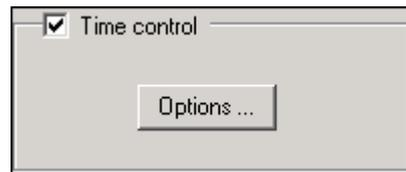

Fig. 54 Time control checkbox on the Alarm input tab
3. Mark the checkbox **Time control** (see "Fig. 54", page 64).